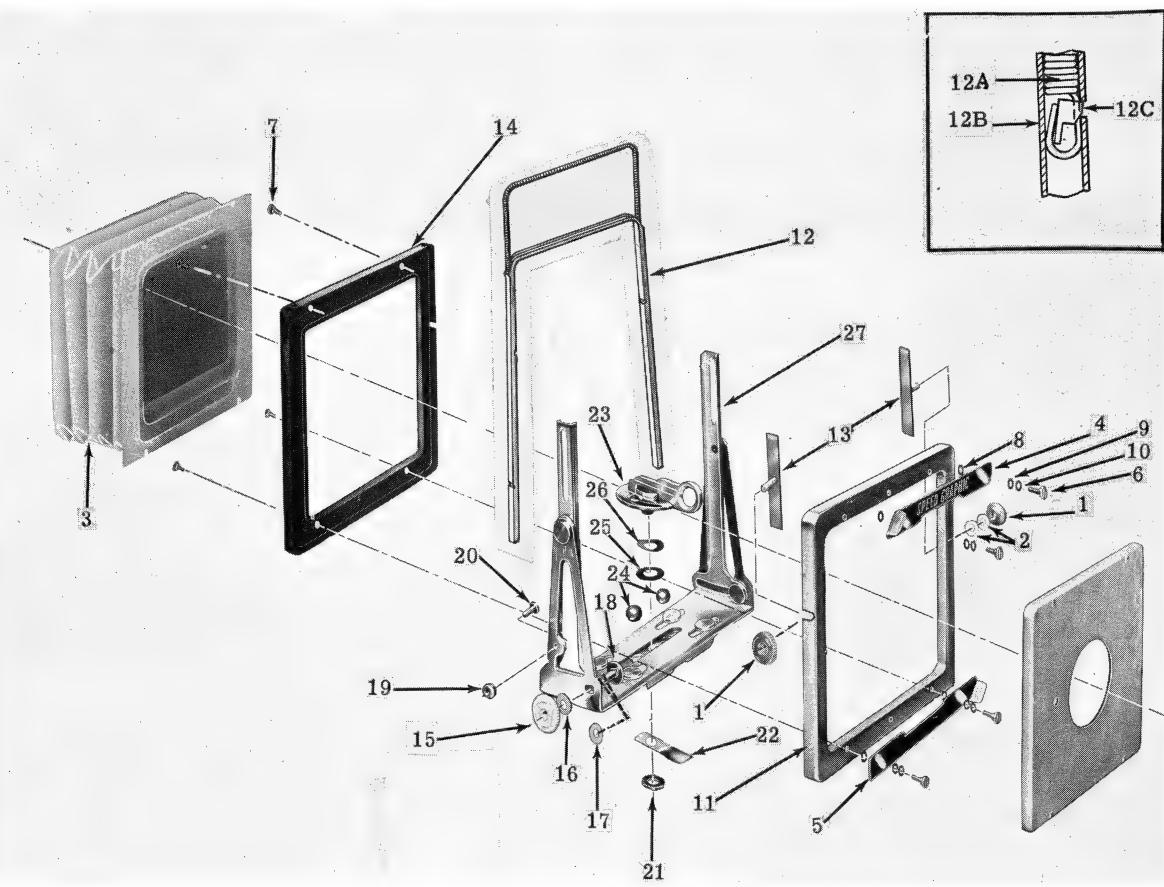

Figure 19. Front Standard Complete
NOTE: If it is not necessary to remove the bellows assembly (3, figure 19), slide the front standard from the bed and proceed from paragraph C.
c) Set the curtain at "0", (open), and remove the two bellows retaining clips (23).
d) To remove the bellows from the frame and support section, remove the lower slidelock (5, figure 19) that is secured by two slidelock screws (6). Loosen the two upper slidelock screws (6). Swing the lower edge of the front bellows frame back and drop the upper edge free from the slidelock nut head.
a) Remove the frame clamp knob (rising front) (1, figure 19) from the right side of the front standard. Slip the manual trip bracket (27C, figure 3) from the stud.
a) Remove two rising front knobs (1, figure 19) from each side of the frame. The ends of the stud securing knobs are staked. Remove the upper and lower slidelocks (4 and 5) that are attached by slidelock screw (6) flat washers (8 and 9) and spring washer (10).
b) Spread the standard support assembly (27) enough to slide the lensboard frame upward and free of the channel.
c) Lift the outer front frame assembly (11) evenly from the assembly to expose the inner parts of the frame and remove the finder complete (12).
4) Lateral Shift Spring and Lock Lever Disassembly. The lever assembly (23) and the shift locking spring (22) are secured by the special hex nut (21). Unscrew the special nut (21) from the bottom of the standard support assembly (27). The shift locking spring may now be removed. Unscrew the slotted stud
1. The bellows (3) should be wiped free of dirt on the outside with a damp cloth. Scrub the inside surface with a stiff brush (old toothbrush) and blow out all loose dirt and grit.
3. Clean the sliding area of the finder (12A, figure 19), the finder frame (12B) and the front frame clamp plate assemblies (13) in solvent (AN-T-37A) and dry before reassembly.
4. Squareness adjustment is set by the front standard eccentric (20) and special lock head nut (19) located on each side.
2. Inspect finder complete (12, figure 19) for squareness.
1. Lateral Shift and Lock Lever. To the lever assembly (23, figure 19) assemble the spring washer (26) and the flat washer (25). Fit the two steel balls (24) into their position between the lever assembly (23) and the standard support assembly (27) and thread the lever assembly stud through the standard support assembly. Lay the shift locking spring (22) in position and assemble the special hexagon nut (21).
2. Adjusting Lock Lever. Check the front standard to determine how tightly it will lock, by placing on the sliding yoke of the bed and setting the lock lever (23). It should clamp tightly enough to prevent slippage when the bellows and lens are assembled. To tighten the lock lever, loosen the lock nut (21) on the bottom side and turn the screw in a counter clockwise direction; to loosen the lock, turn the screw in a clockwise direction and tighten the nut.
3. Lensboard Frame and Sight Reassembly. Lubricate the flat surface of each front frame clamp plate assembly (13) with grease, AN-G-6. Lubricate the sliding areas of the finder (12A) and the finder frame (12B) with grease, AN-G-6.
a) To the outer front frame assembly (11) assemble the front frame clamp plate assembly (13) on each side and assemble the finder complete (12). Assemble the inner front frame (14) to this assembly and position the upper slide lock nuts (7) to the top rear holes. Position the flat washers (8), lay the upper slidelock (4) in position and assemble the slide-lock screw (6) that has been fitted with spring washer (10) and flat washer (9).
b) Attach the frame assembly to the bellows by sliding the top edge of the front bellows frame under the slide lock nuts (7). Swing the lower edge of the front bellows frame against the frame and assemble the lower slide lock nuts (7) through the lower bellows frame slots. Assemble the lower slidelock (5) and its attaching parts.
c) To assemble the lensboard frame assembly to the standard support assembly (27) spread the upright channels and drop the lensboard frame into position with the threaded studs of the front frame clamp assembly (13) extending through the vertical section. To the stud on the left side, assemble two flat fibre washers (2) and a frame clamp knob (1). Peen the first thread lightly to prevent loss of the knob.
b) Thread the manual trip bracket (27C, figure 3) through the bellows hangers and mount the bracket over the right front frame clamp plate stud. Assemble the frame clamp knob (1, figure 19) and peen the first thread of the stud at one point.